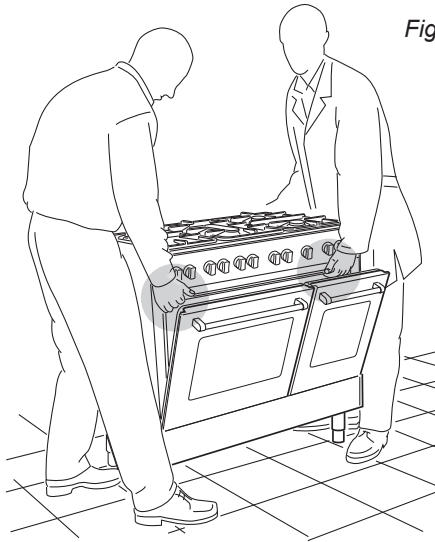

Fig. 9.5
**WARNING:** When raising cooker to upright position always ensure two people carry out this manoeuvre to prevent damage to the adjustable feet (fig. 9.5).
When moving cooker to its final position **DO NOT DRAG** (fig. 9.7). Lift feet clear of floor (fig. 9.5).